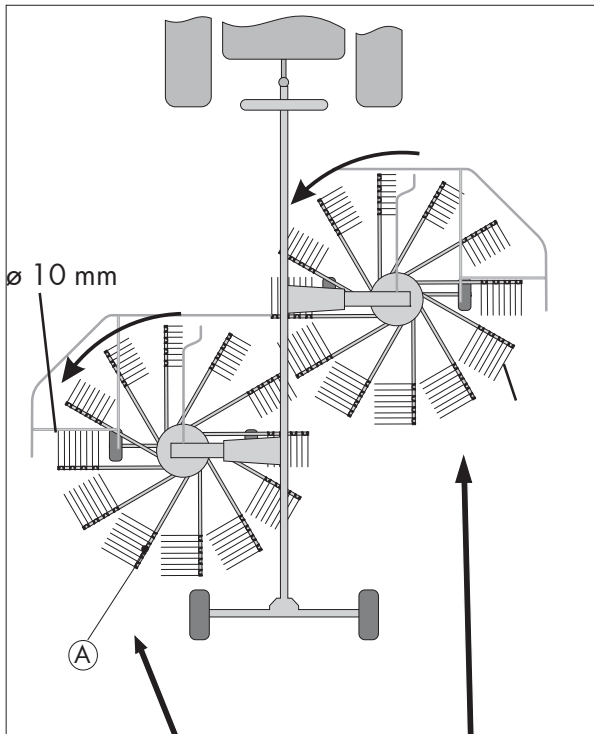

Fig. 2-10
The tine bars of the rear rotary unit are marked with a sticker (A) (fig. 2-10).